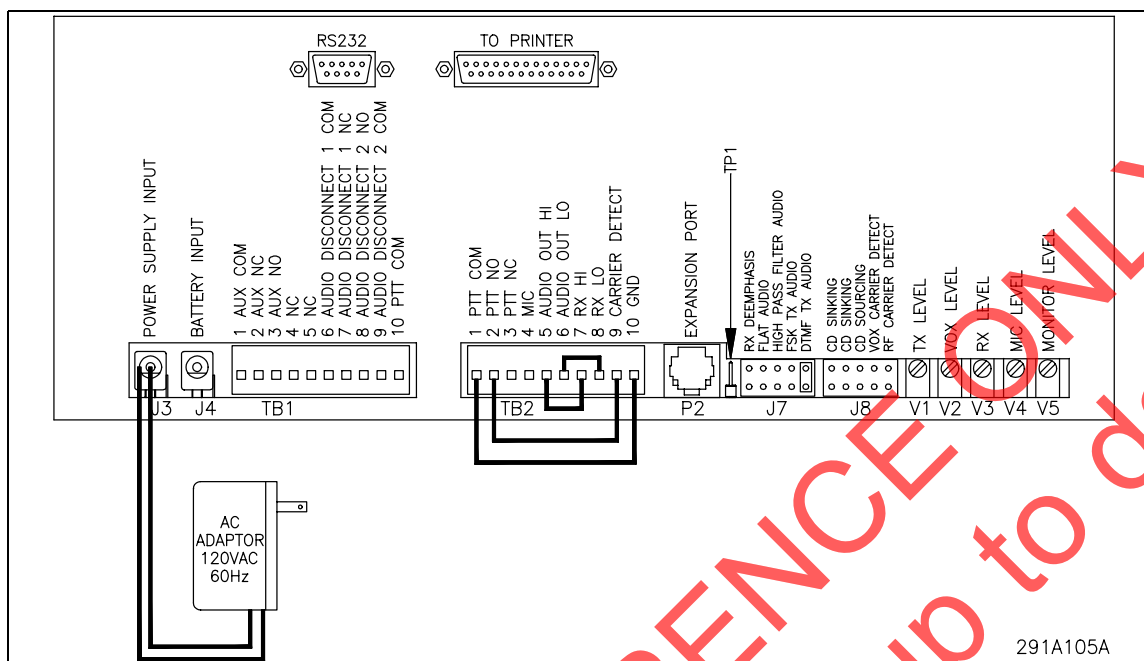

Fig. 5.6b
- Connect TB1 and TB2 as shown in figure 5.6b